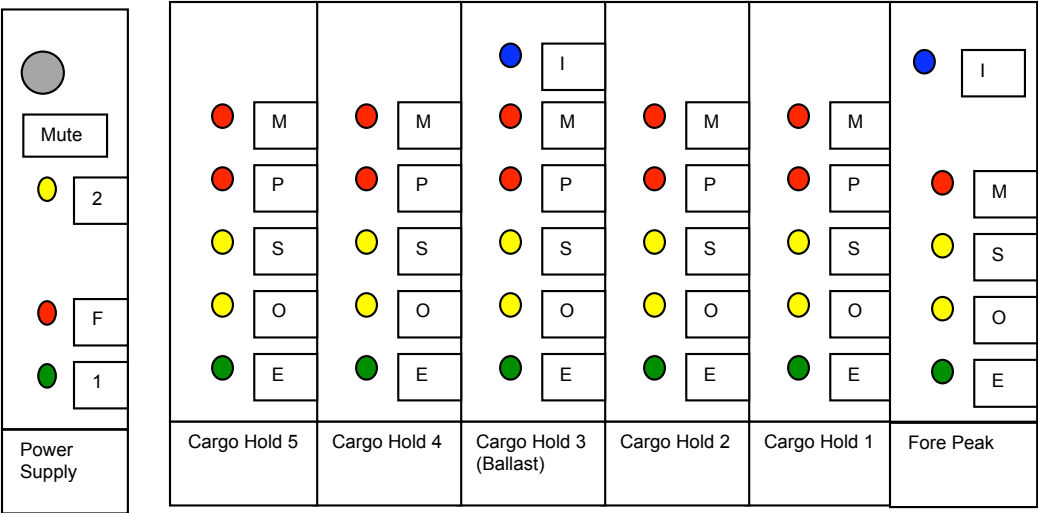

Figure 1: Representative Panel for Water Ingress Monitor
Equipment designed for the purpose of monitoring water ingress to the hull of a bulk carrier must conform to a performance standard. Different manufacturers may design their equipment with variations in layout but all must be provided with certain minimum indicators and alarms. The alarm panel shown below in figure 1 does not represent any particular manufacturer's product neither does it depict any particular ship. It is intended to illustrate a typical layout that incorporates all the requirements of the performance standard.
- **Indication of power supply status** (in the panel on the extreme left in fig. 1).
- **Indication of a fault** (in the segment of the panel on the extreme left in fig. 1)